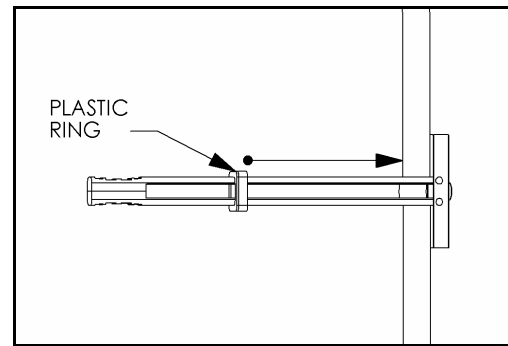

Figure 12. Slide Plastic Ring to Wall Surface
4. Slide plastic ring of anchor to the surface of the wall (see Figure 12).